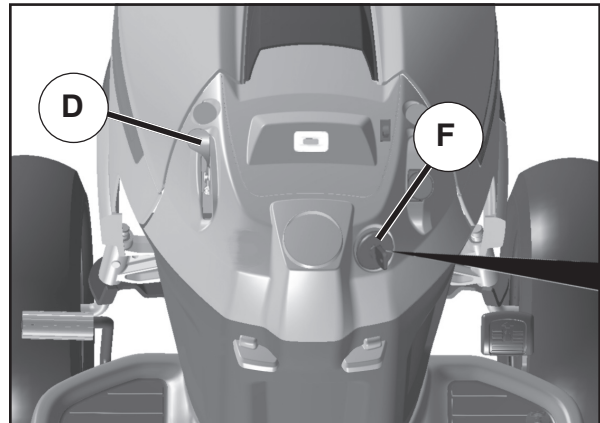

Fig. 19
- Move throttle control (D) to slow position.
- Turn ignition key (F) to “STOP” position and remove key. Always remove key when leaving tractor to prevent unauthorized use.
### TO USE THROTTLE CONTROL (D) (See Fig. 19)